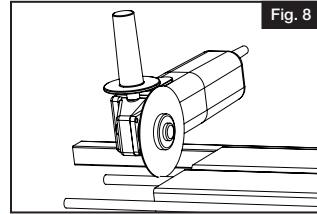

Fig. 8
- b. It may be helpful to carefully lay the panel down and use blocks of wood between the rods or if space permits reattached the upright to keep them from moving during the cutting process (Fig. 8).